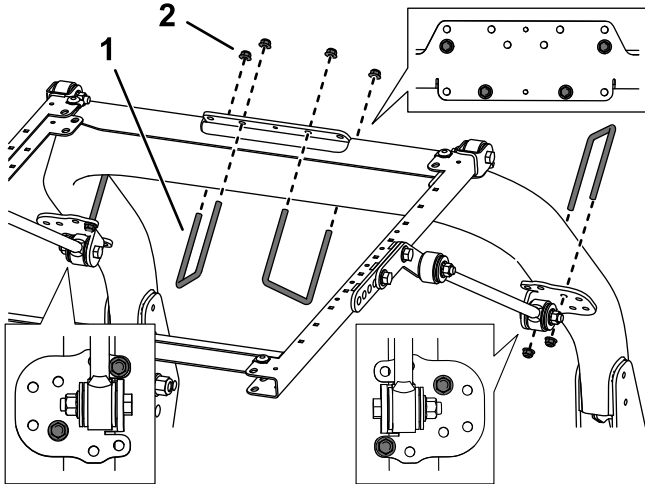

Figure 39
8. Using the mounting holes shown in Figure 39, loosely secure each of the brace brackets to the roll bar posts with a U-bolt (3-1/2 x 5 inches) and 2 flange nuts.